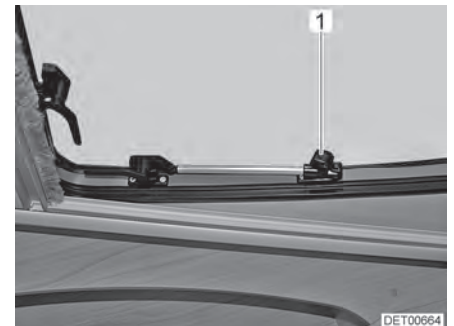

Fig. 46 Roof window with rotary hinges, open
- Open the roof window until the required position has been reached and use knurled knob (Fig. 46,1) to secure in position.
- Turn knurled knob (Fig. 46,1) until the latch is released.